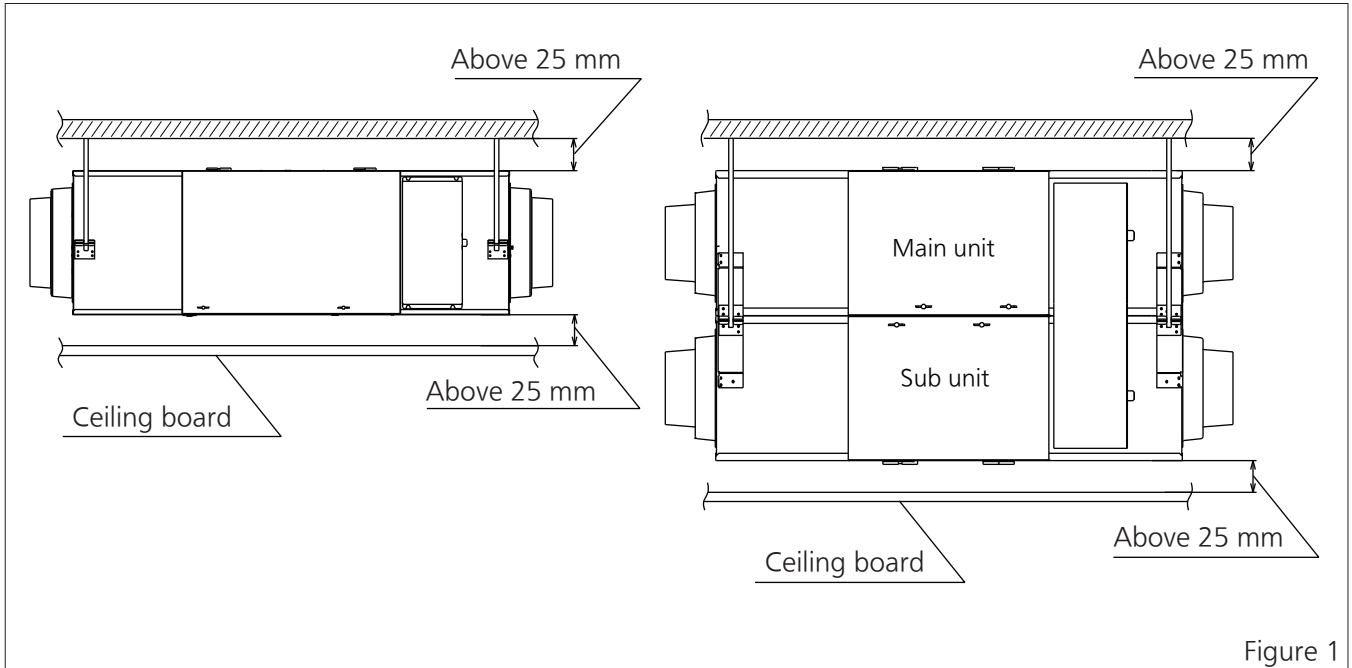

Figure 1
①Please ensure a safe distance (Figure 1)
- (1)Ensure the distance between the underside of the unit and ceiling board is over 25 mm.
- (2)Ensure the distance between the top of the unit and the mounting face of supports is over 25 mm.
① Installation diagram (Figure 1、Figure 2、Figure 3)
- ② Positioning and installation of supports (Figure 1)
- (1) Please set the supports according to the support parts of the energy recovery ventilator. (site supplied: M10-M12)
- (2) Install the support parts (4) of the energy recovery ventilator to the suspenders (site supplied).
- ① Strip the power cord. (Figure 1)